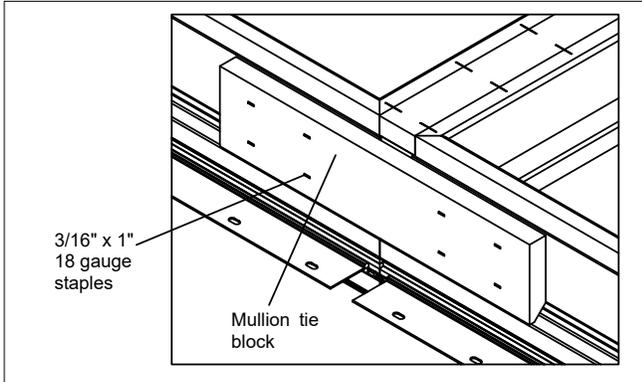

Figure 4
- Attach mullion tie block at sill with at least four 3/16" x 1" 18 gauge staples on each side of mullion as shown in figure 4.